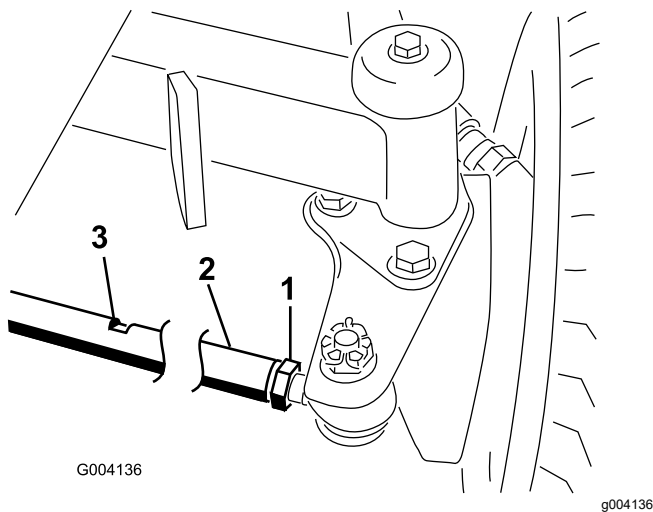

Figure 134
1. Loosen the jam nut on each end of the tie rod (Figure 134).